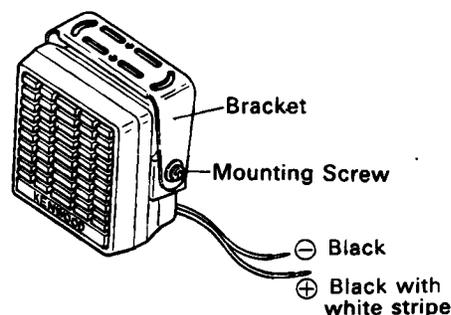

Fig. 1
2. Loosen the two Mounting Screws and remove the Bracket from the External Speaker (**Fig. 1**).